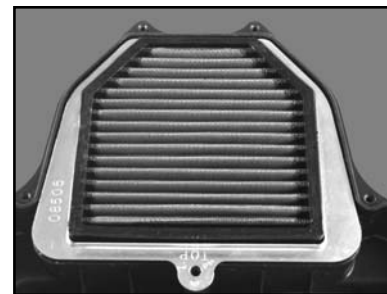

Fig. 3
4. Install the provided support plate onto the K&N Air Filter with the stamped TOP facing up. (Fig. 3)